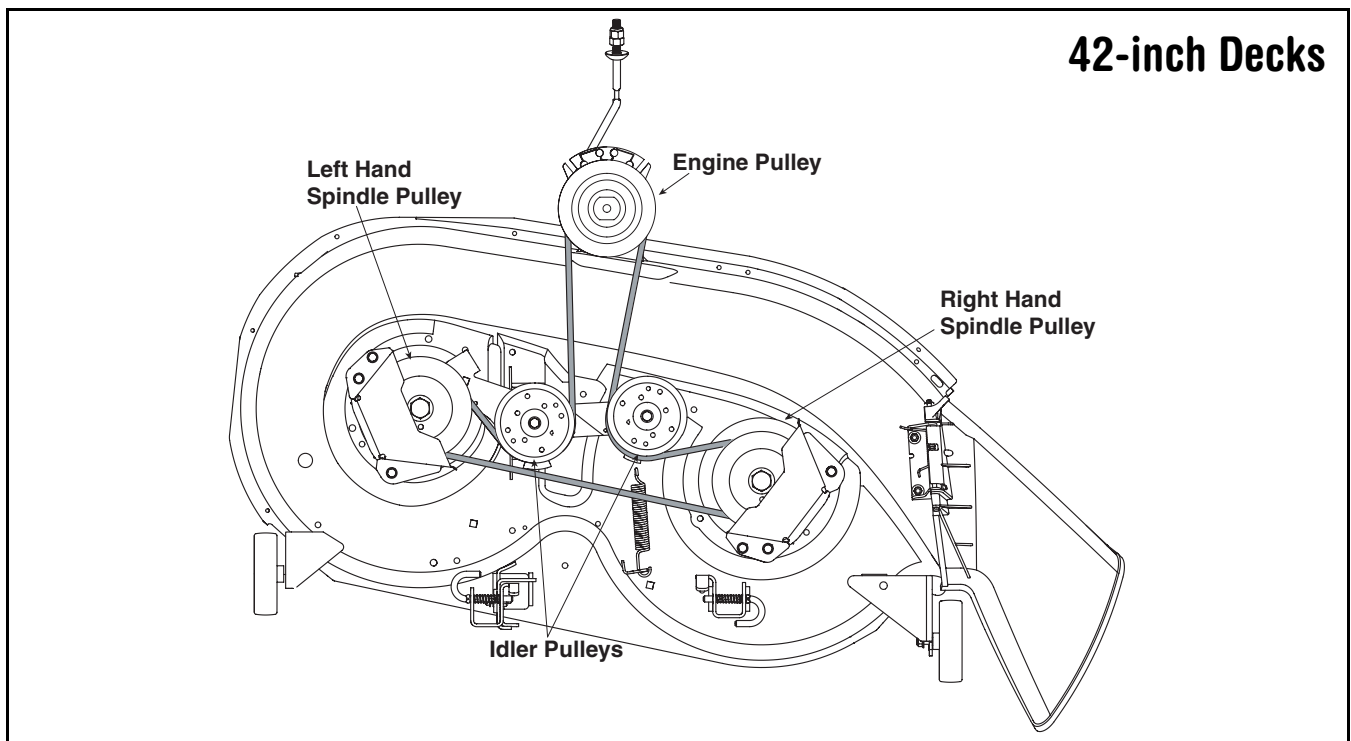
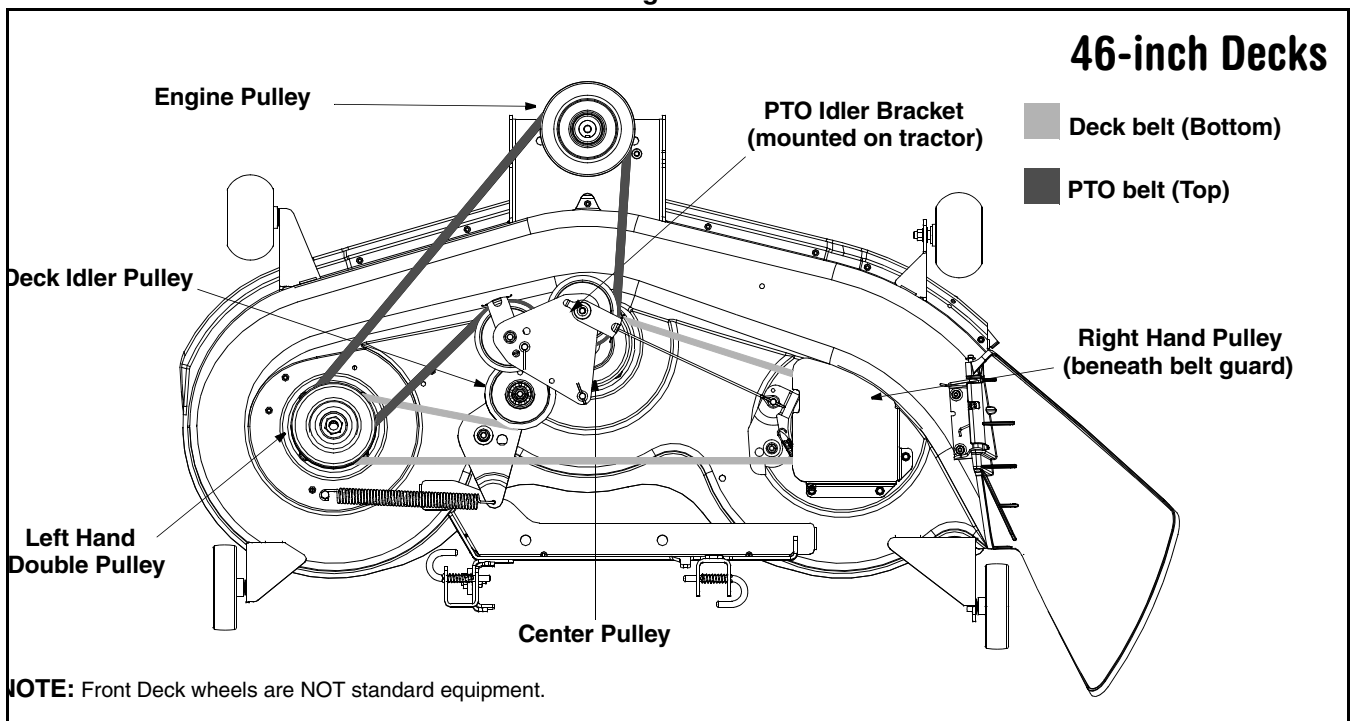

Figure 26
Figure 27
- Remove the PTO belt (46" Deck)/ deck belt (42" Deck) from around the tractor's engine pulley and idler pulley(s). Refer to **Changing The Deck Belt & PTO Belt** and Figure 26 and Figure 27.
- Route the new belt(s) (**deck belt first - 46" deck**) as shown in Figure 26 and Figure 27.